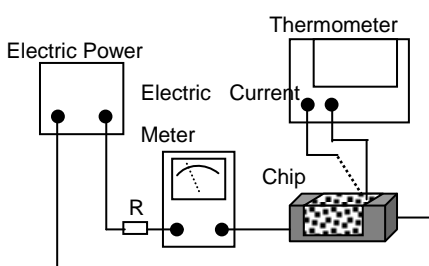

Fig. 5.3.5-1
- Definition of Rated Current(Ir): Ir is direct electric current as chip surface temperature rose just  $20^\circ\text{C}$  against chip initial surface temperature( $T_a$ ) (see **Fig. 5.3.5-2**).